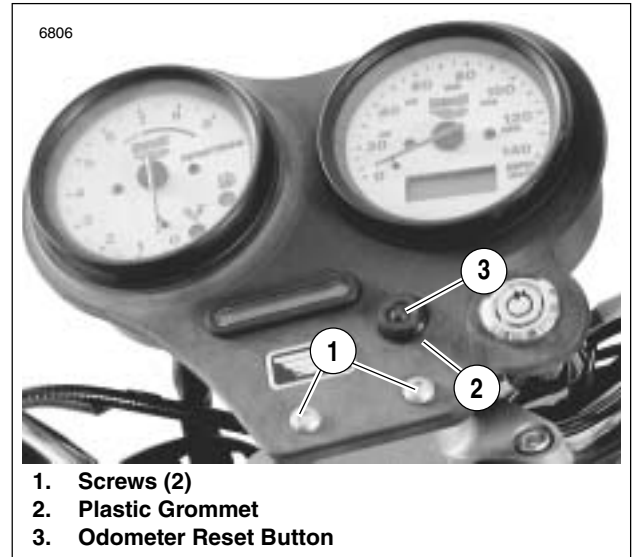
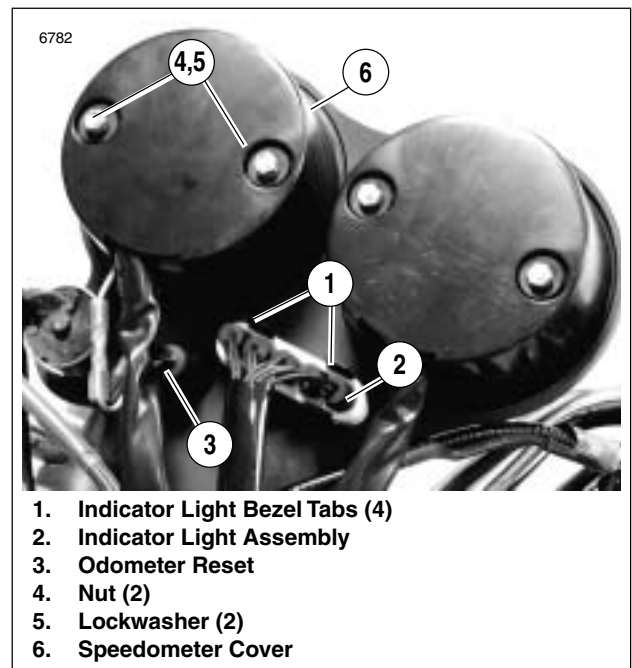

Figure 7-56. Dash Panel (Front)
Figure 7-57. Dash Panel (Back)
- a. See Figure 7-56. Pry off plastic grommet (2) from front of odometer reset button (3).
- b. See Figure 7-57. Remove odometer reset button (3) from back side of dash panel.
3. See Figure 7-56. Detach instrument support dash panel by removing two screws holding panel to instrument support clamp. Pull dash panel upward, but do not damage wiring.
4. See Figure 7-57. Remove two nuts (metric) (4) and lockwashers (5) from speedometer cover (6).
- d. See Figure 7-57. Install odometer reset button (3) from back side of dash panel.
- e. See Figure 7-56. Secure odometer reset button (3) on front of dash panel with plastic grommet (2).
5. See Figure 7-57. Install speedometer cover (6).
- b. Apply LOCTITE THREADLOCKER 243 (blue) to both nuts (metric) (4).
- c. Fasten cover (6) to speedometer using two nuts (metric) (4) and lockwashers (5).
6. See Figure 7-56. Position dash panel on instrument support clamp.
- a. Attach dash panel using two screws (1) to hold panel to clamp.